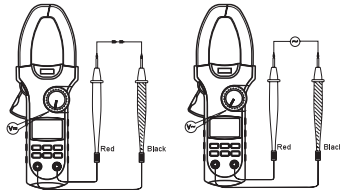

Figure 3
A.Measuring DC/AC Voltage (See Figure 3)